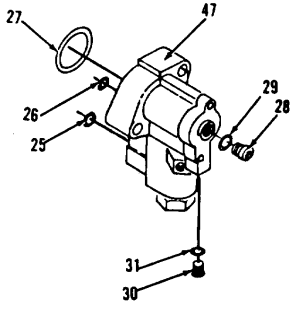

Figure 10-20
- 75. Install new preformed packing (31), plug (30), new preformed packing (29) and plug (28) in housing (47, Figure 10-20).